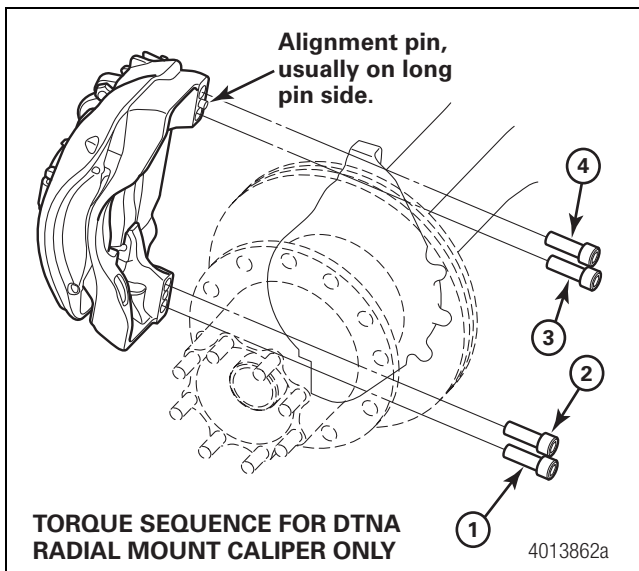

Figure 10.3
1. Tighten the four M20 bolts sufficiently to seat the brake caliper to the anchor plate using the sequence shown in Figure 10.3.